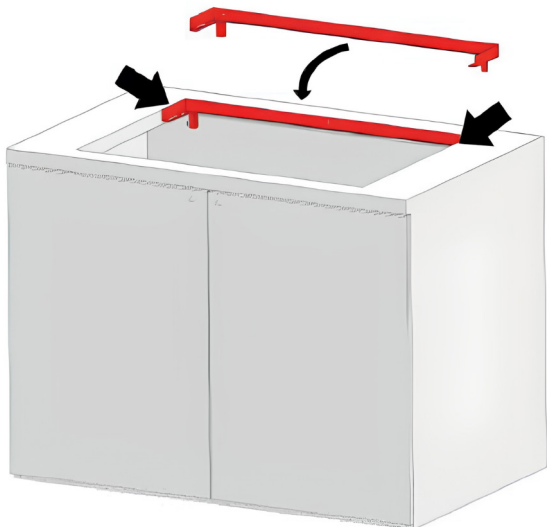

Fig.2
2. Position the support bracket of the downdraft in the rear part of the realised aperture (Fig.2).